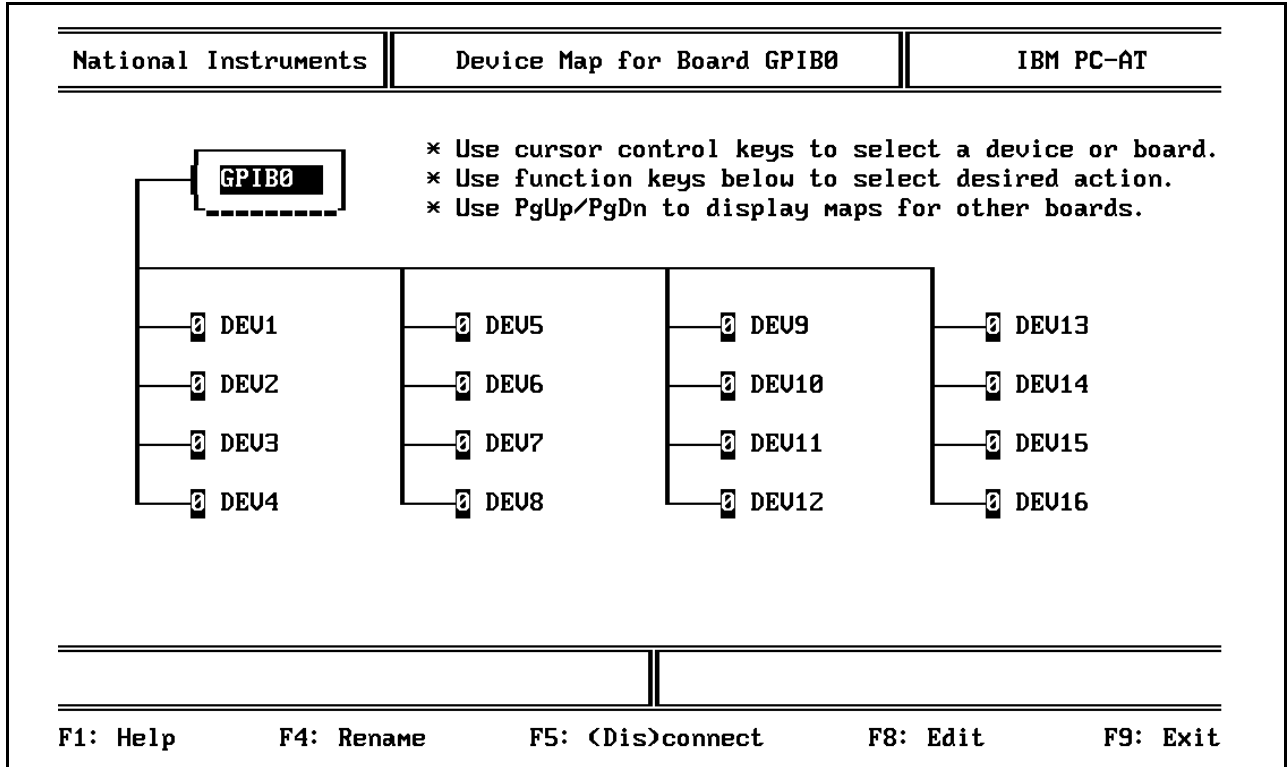
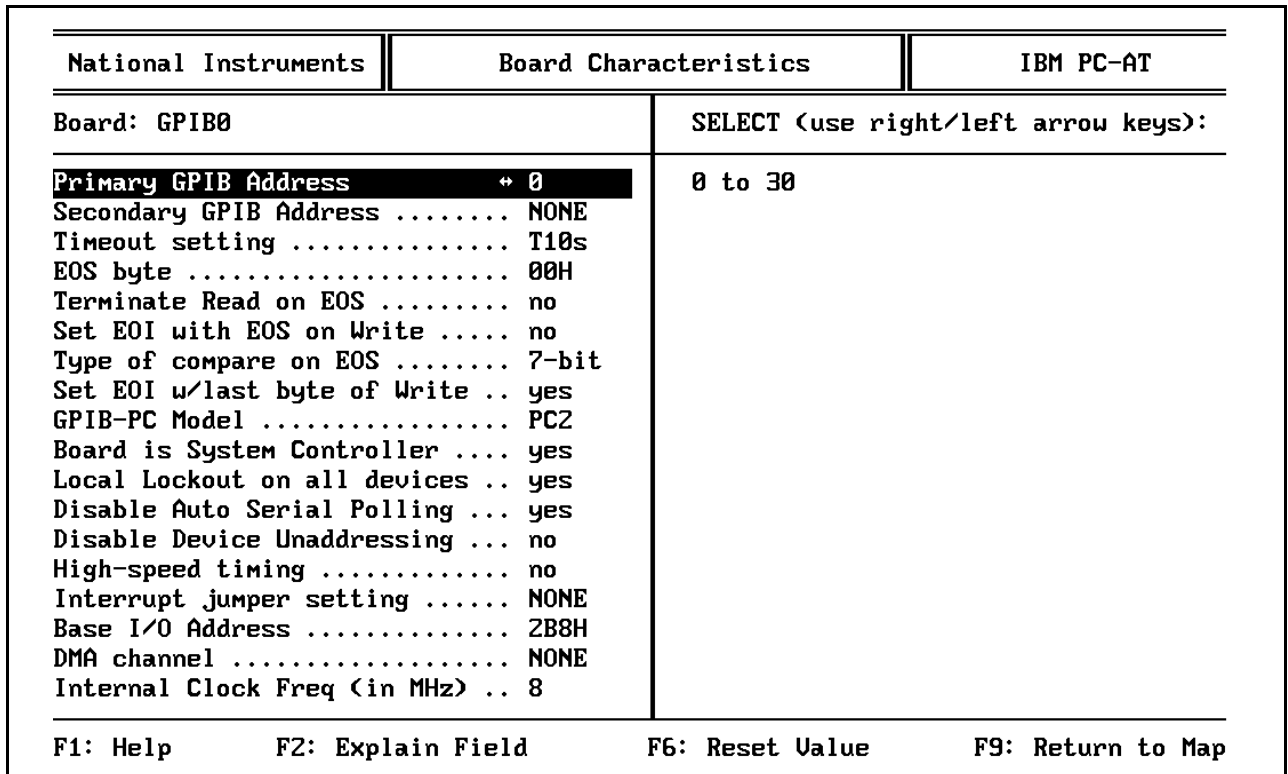

Figure B-2. Device Map for the GPIB-PCII/IIA Card
Figure B-3. GPIB-PCII/IIA Card Configuration Parameters
5. Follow the instructions on the display. The program firsts displays a device map for the GPIB card (Figure B-2). Select the GPIB-PCII/IIA Card or device whose parameters you wish to display, then press the function key, F8. Change the configuration of the GPIB-PC-II/IIA card to that shown in Figure B-3 and verify the configuration of the device DEV6 matches Figure B-4.